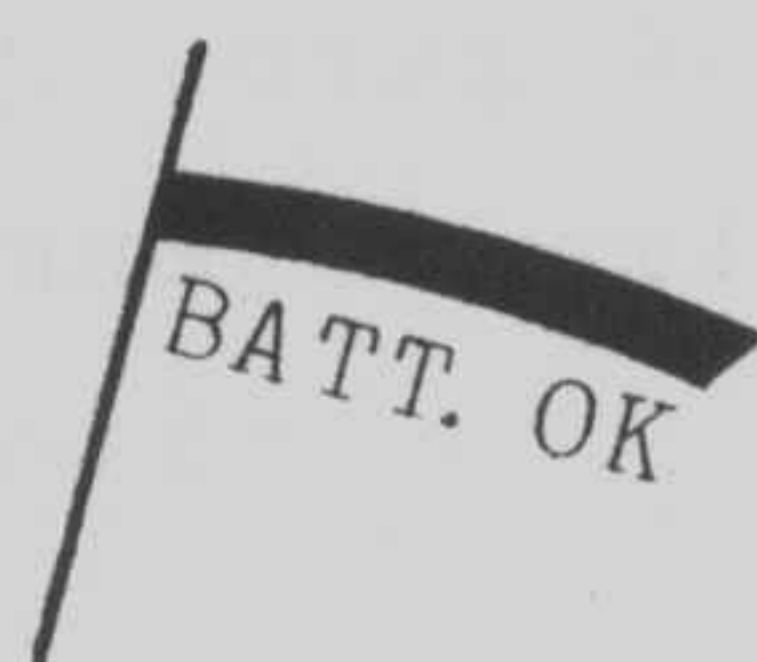

Figure-1
- Adjust VR802 so that the pointer indicates left edge of BATT OK mark as shown in Figure-1.